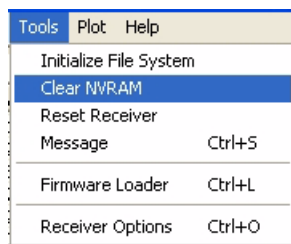

Figure 5-11. Clear NVRAM
3. Click the *Tools* ▶ *Clear NVRAM* (Figure 5-11).